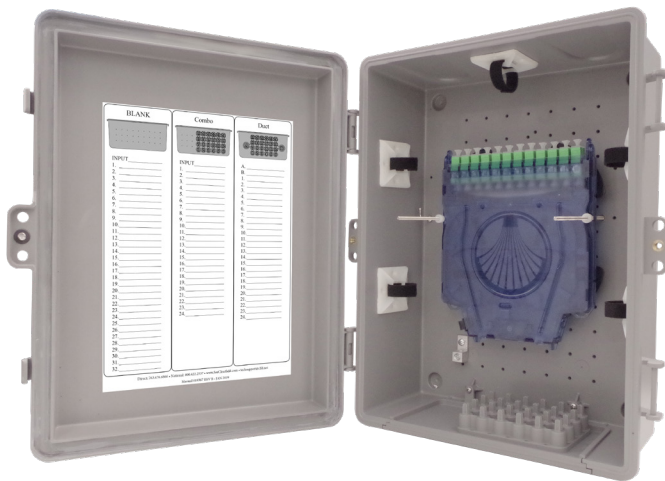

Figure 1
1. With the use of up to 2 Cassettes (24-ports) (**Figure 1**)